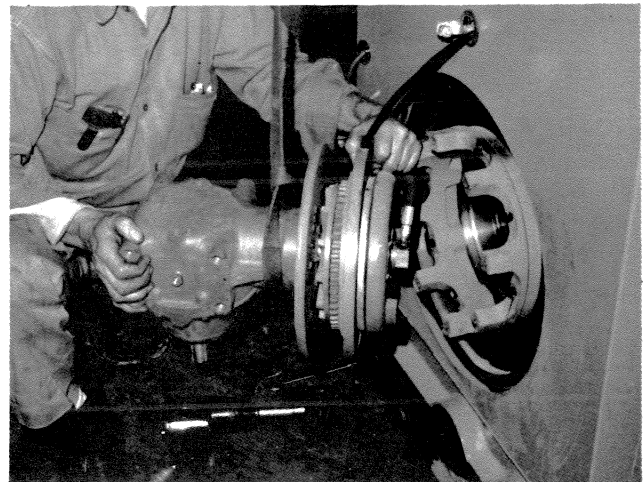

Figure 3. Removal of Clutch Gear box
- (4) Cut and remove safety wire from the Allen-head capscrews securing the clutch assembly to the flywheel. Support the gearbox (Fig. 3), and remove the allen-head capscrews.